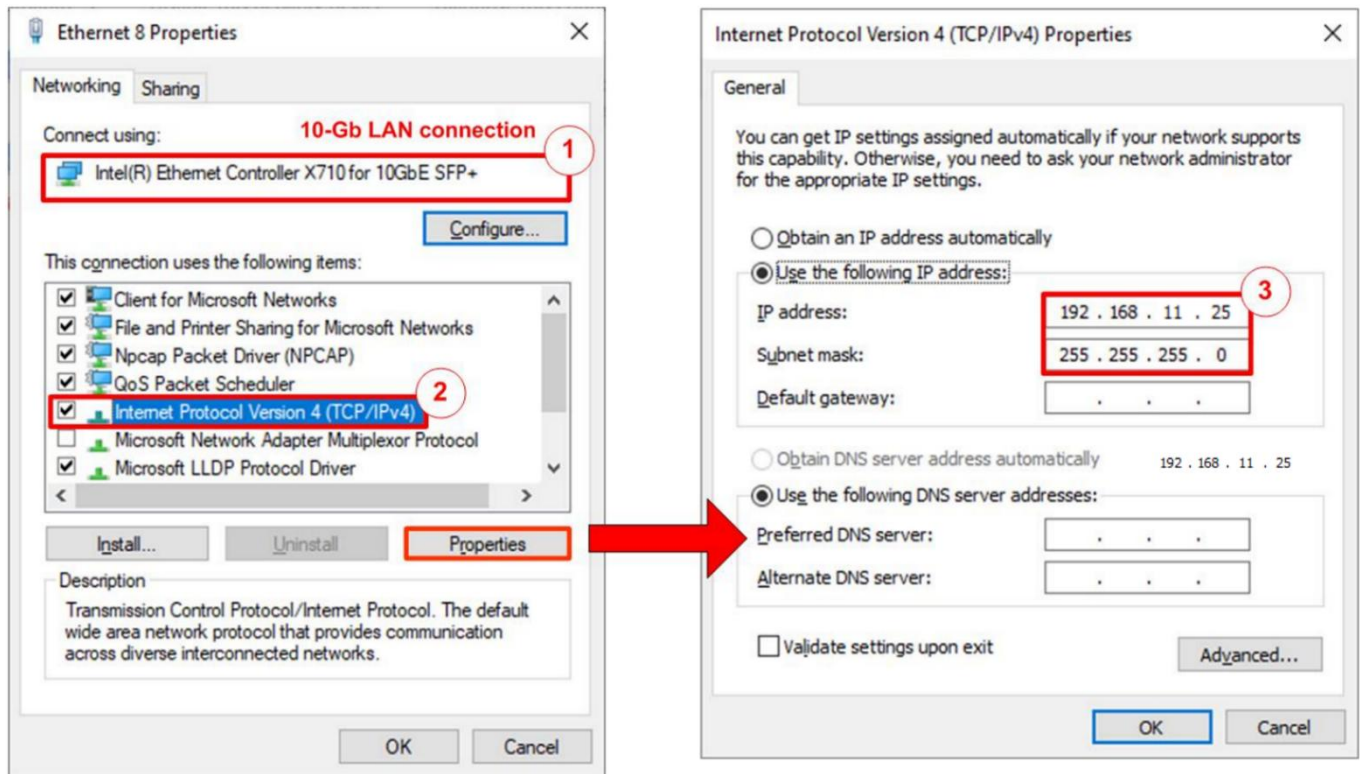

Figure 4 Setting IP address for PC
- 1) Open Local Area Connection Properties of 10 Gb connection, as shown in the left window of Figure 4.
- 3) Set IP address = 192.168.11.25 and Subnet mask = 255.255.255.0, as shown in the right window of Figure 4.